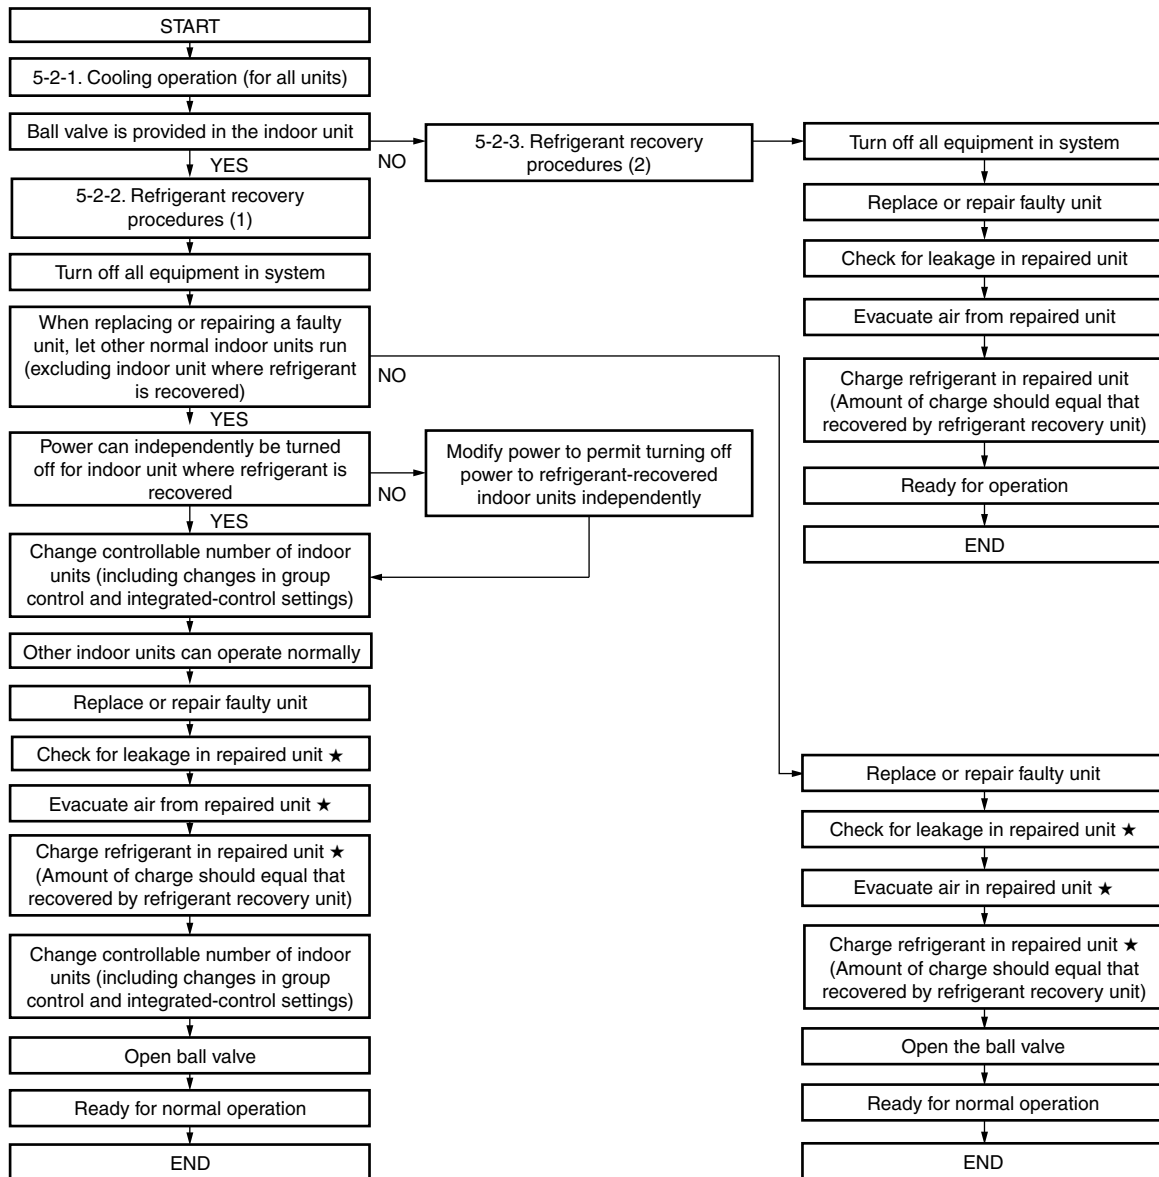

**Fig. 7**
- (1) Turn off the power of the outdoor unit beforehand (at power mains).
- (2) Fully close each service valve on the suction tube, discharge tube, liquid tube, and the balance tube of the outdoor unit.
- (3) Connect the outdoor unit's high-pressure and low-pressure outlet ports with the Hi and Lo sides of the manifold gauge valves using hoses. (Fig. 7)
- (4) Connect the manifold gauge valves, refrigerant recovery unit, and recovery cylinder using hoses. To avoid the entry of air into the refrigerant tubing, carry out this connection work carefully. (Fig. 7)